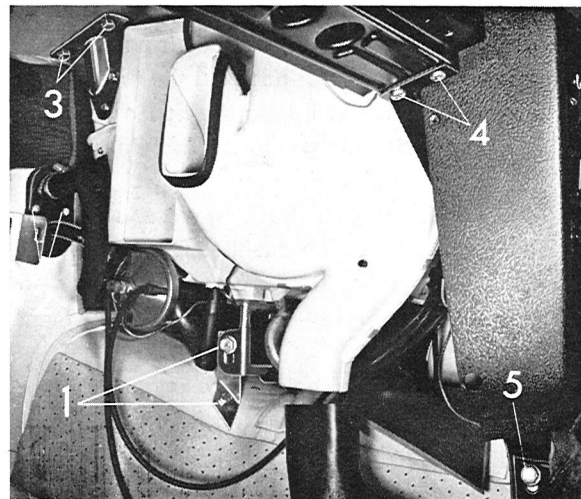

Fig. 8-68. Central unit, left-hand side
3. Remove the screws (2, Fig. 8-68) for the control plate support legs on both sides, and move the plate as far back on the transmission tunnel as the electric wires permit.
9. Remove the upper and lower screws for the left support leg, and the screws for the upper and lower brackets, from the firewall and transmission tunnel (Fig. 8-68).